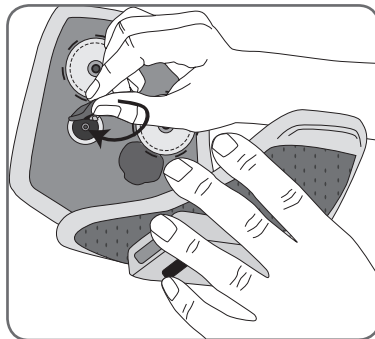

Figure 63: Connecting the electrode base snaps to the plug holes.
5. Connect the electrode base snaps to the plug holes. See Figure 63.